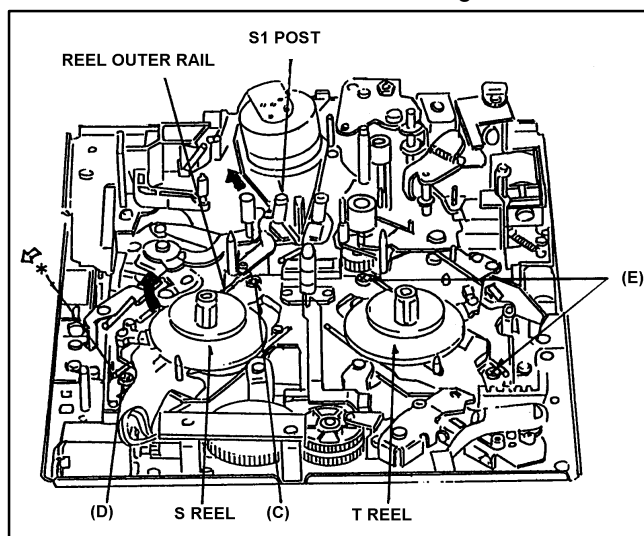

Figure 1-5-1
1. Disconnect the **connector (A)** and **(B)** on the **P.C.Board (C)**. (Please refer to above chart.)
2. Move the S1 post to loading direction by manual ejecting method until the screw (C) can removing position as shown in Figure 1-5-1.
5. Remove the 4 screws (C), (D) and (E) as shown in Figure 1-5-1.